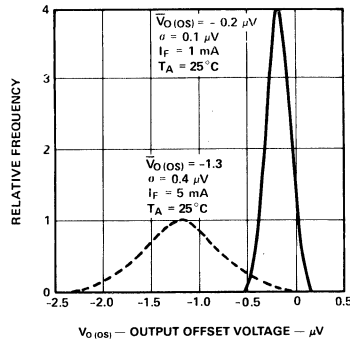

Figure 7. Output Offset Voltage Distribution.
3. $V_{\alpha_{OB}}$ is a function of $I_{P(ON)}$ and is defined between pins 8 and 5 with pin 5 as reference. $V_{\alpha_{OB}}$ must be measured in a stable ambient. See Figure 7 for variation of $V_{\alpha_{OB}}$ around the typical value.